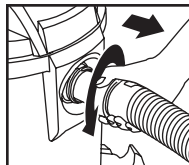

FIGURE 12
21. Unscrew hose locking-nut and remove hose from inlet. **FIGURE 12.**